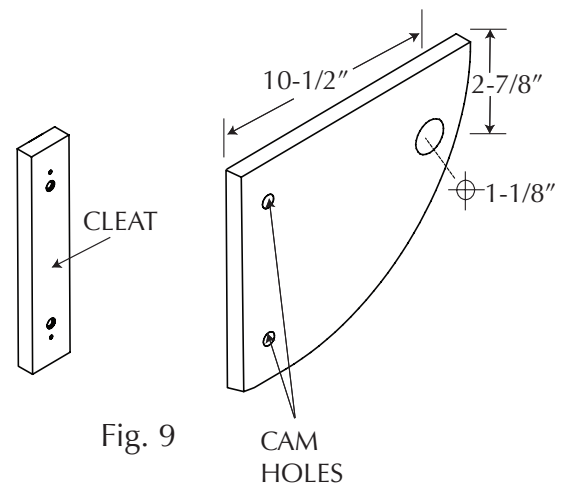

Fig. 9
1. Push two slip-in studs through larger holes in backside of cleat. (See Fig. 9.)
3. Drill a 1-1/8" hole in the half moon at 10-1/2" from back and 2-7/8" from the top. (See Fig. 9.)
4. Push cam locks into cam holes in half moon. (See Fig. 9.) Push cover caps over cams. Push half moon over heads of slip-in studs sticking out of cleat. Tighten cams.